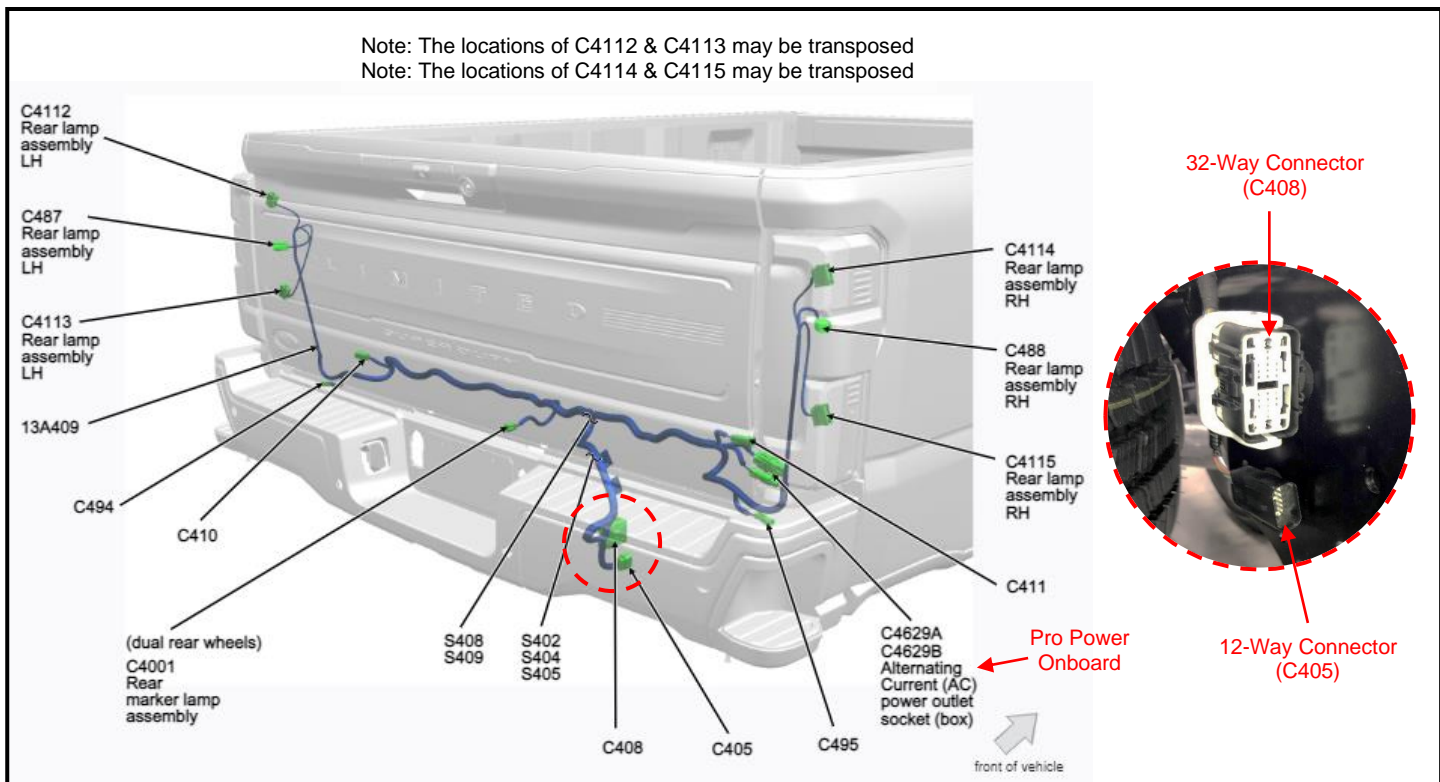

Figure 2 – Taillamp Harness – Pickup Low Series
- “Pickup” Taillamp Harness – A new Pickup Taillamp service part can be purchased (see below) or the Taillamp harness from the pickup box may be removed and reused (Low and Mid Series vehicle only! High Series taillamp harnesses do not have reverse lamp circuits). Using a pickup taillamp harness allows reuse of parts and supports use of DRW Park lamp circuits (if desired, DRW pickups only). Reference Figures 2 and 3 for pickup taillamp harness connector numbers and locations.
If using a Box Delete or Custom taillamp harness, the unused 12-way vehicle connector (C405) will need a delete cap. Delete caps can be purchased separately (Aptiv 35096259 – all cavities blocked, or Aptiv 15532138 – all cavities open, must have seals installed) or use service pigtail WPT-1815 (Part # PU2Z-14S411-BJA) with the leads sealed with heat shrink caps. See Figure 2 for connector locations.